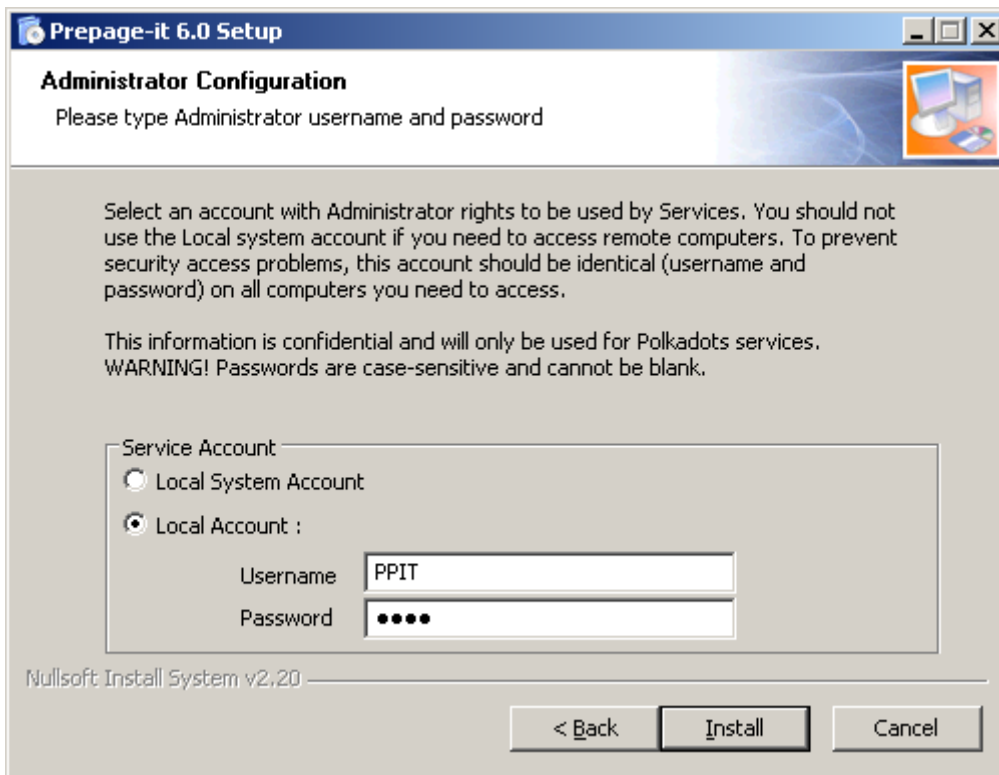
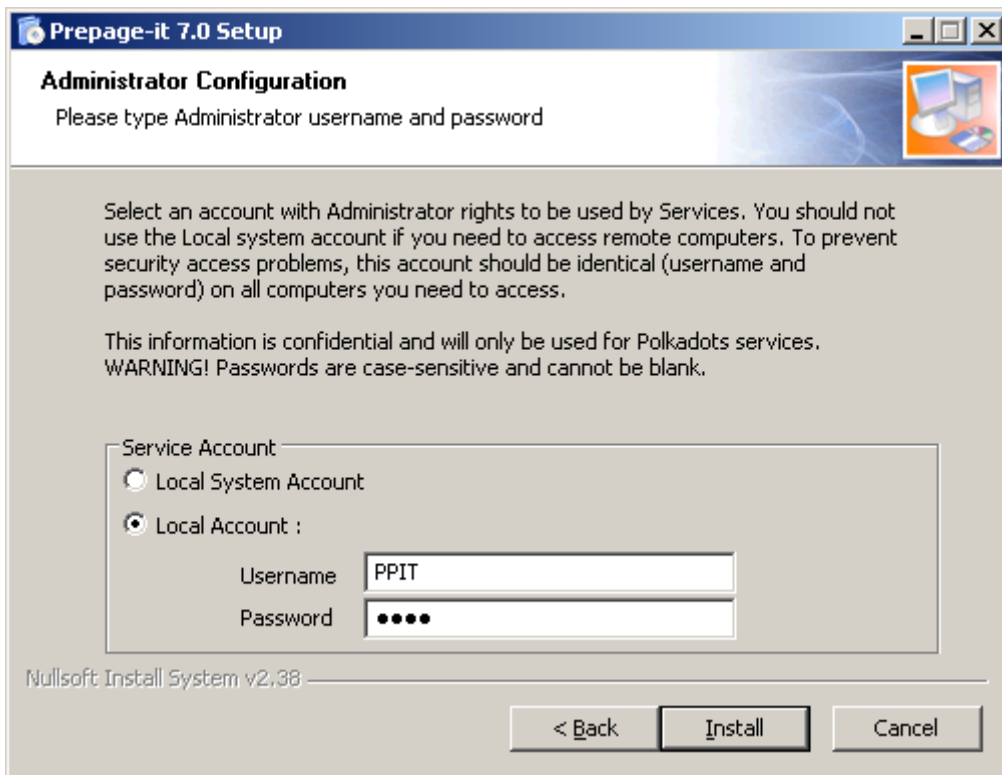

Figure 6 - Specify User
Figure 15 Specify User
After creating an identical user account with Administrator rights on each computer PrePage-it needs to access, as explained in the previous section, you now need to specify this user account in the dialog box shown in Figure 6 (below). This dialog box is displayed during the installation process, as shown in Figure 15 on p.36.
7. If PrePage-it needs to access other computers on your network in order to read (input) or write (output) files, then it must have the necessary security permissions. This can be achieved by creating an identical user account on each computer PrePage-it needs to access, then specifying this user account in the dialog box shown in Figure 15. To specify this user account, click **Local Account** and type the **Username** and **Password**. Note that this user account must have administrator rights. If PrePage-it never needs to access any remote computers, you may choose **Local System Account** instead. Refer to the section Accessing remote folders on p.26 for more information.